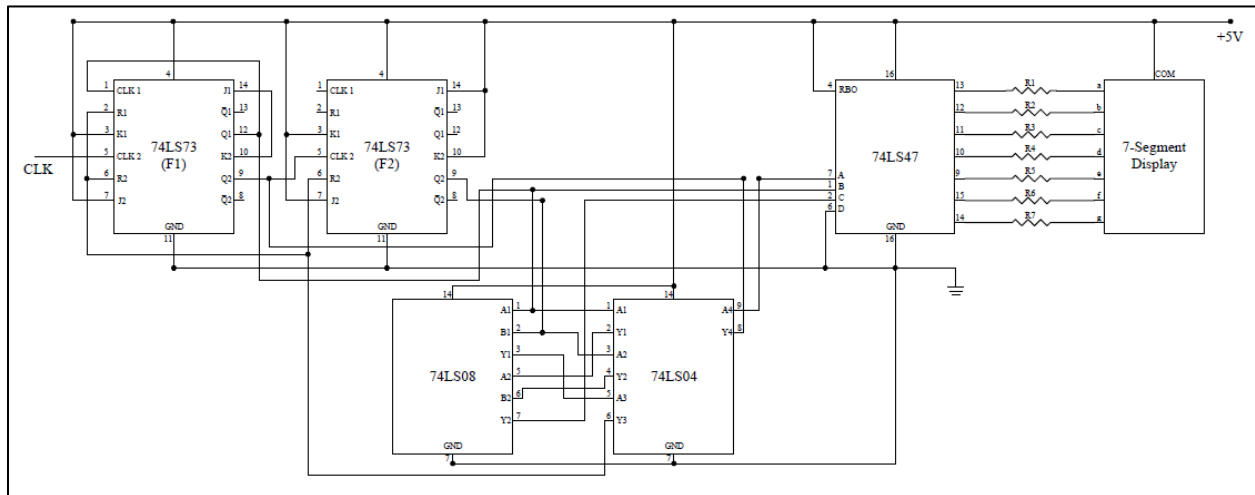

Figure 12-15: Modulo 6 Down counter using JK Flip-Flops
STEP 2: Refer Figure 12-15 and study the circuit diagram and its connections. (Proteus simulation circuit diagram too is provided for user's ease of understanding the circuit and as an assistance to conduct simulations using Proteus software)